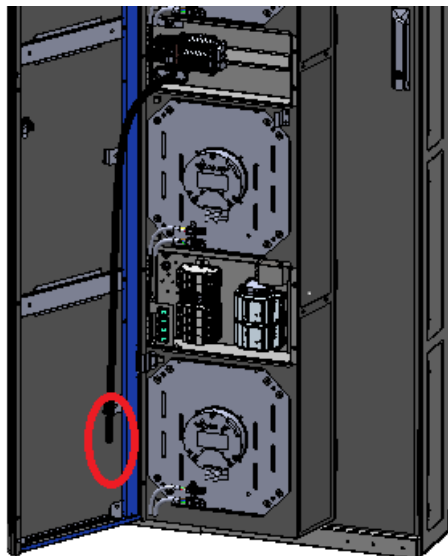

Figure 3-11: Location of the Ball Valve Connector
- For the location of the ball valve connector, please refer to *Figure 3-11*.
- For the location of the ball valve connector, please refer to **Figure 3-11**.